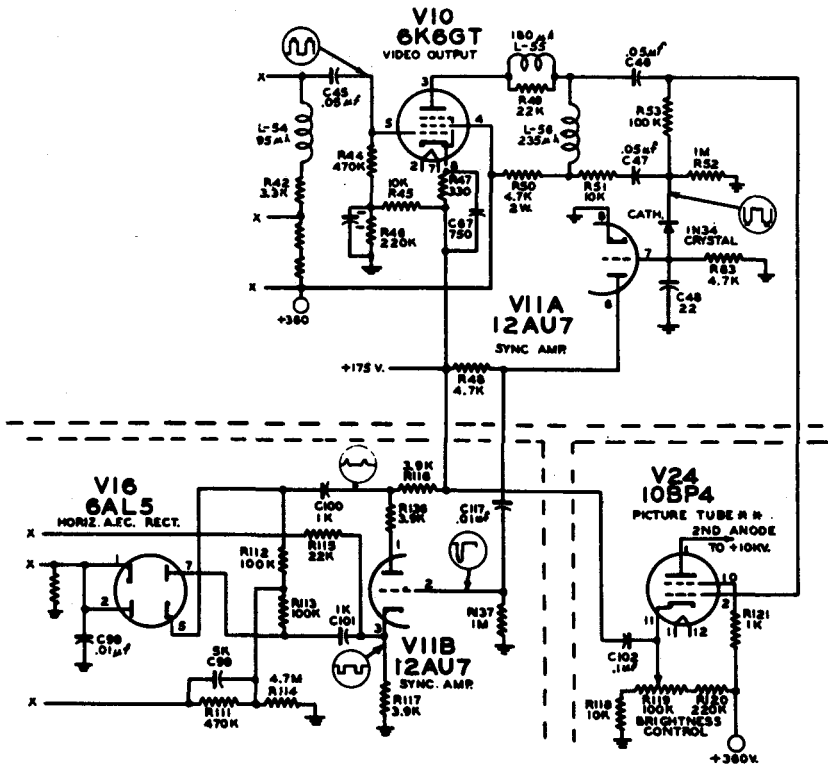

Fig. 3 - Sparton
**Additional sync amplification (see Fig. 3).**